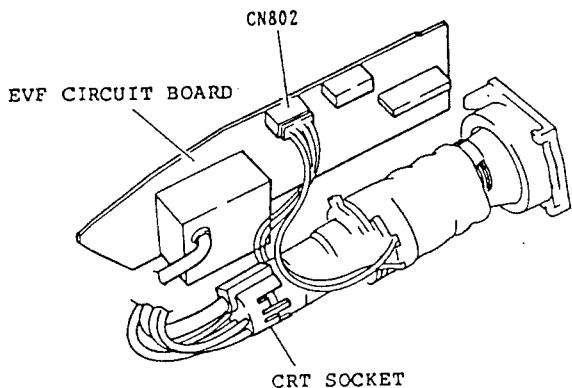

Fig. 2-113
3. Disconnect connector CN802 and the CRT socket. (See Fig. 2-113)
(See Fig. 2-113)